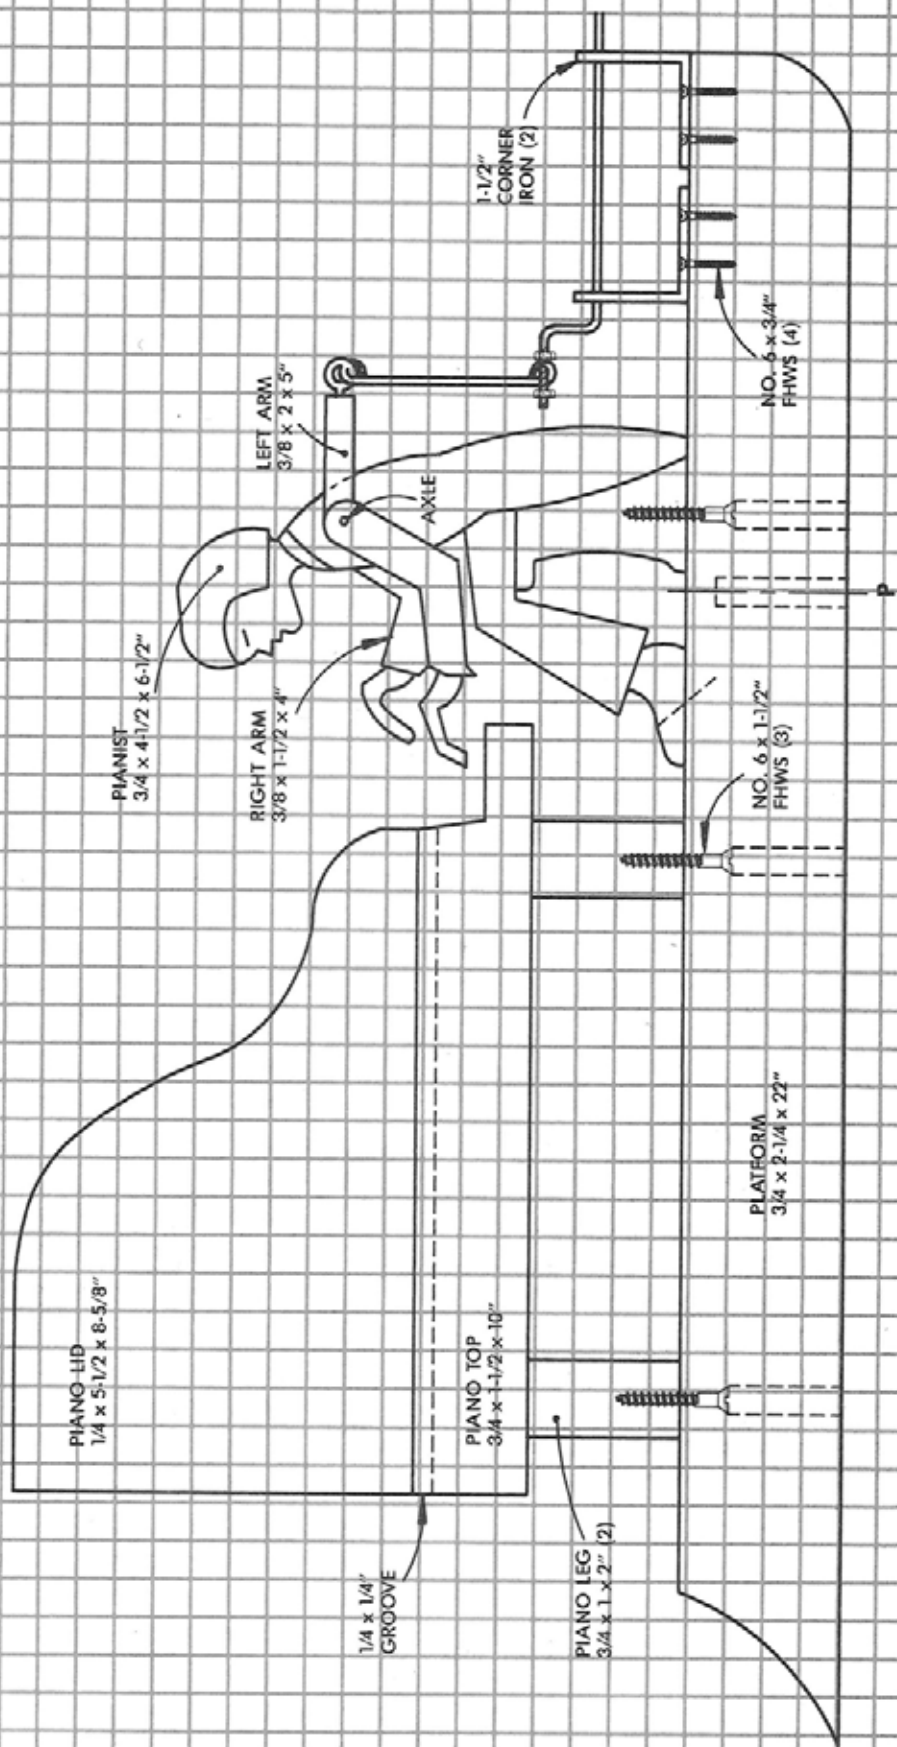

Figure 4-50. Plan for Maestro at the Piano whirling.
1. Cut out the platform and mark where the objects will be located (Fig. 4-50). Drill the 3/8 in. pivot socket 7 in. from the front of the platform. Drill screw holes for the pianist at 6 in., and for the piano legs at 10-1/2 and 17-1/2 in. from the front of the platform. Attach the corner irons.